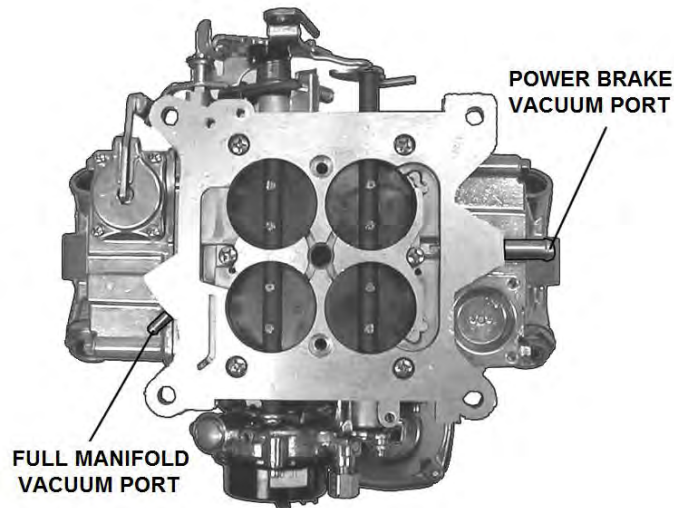

Figure 6
8. Connect the power brake hose to the fitting as shown in Figure 6.